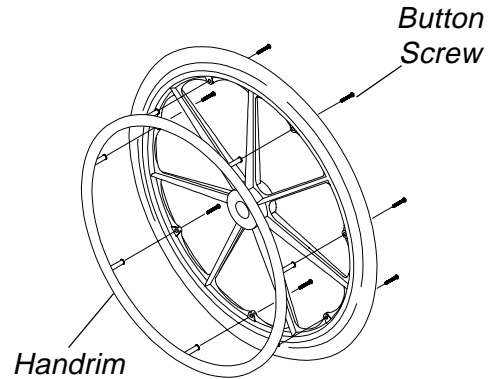

FIGURE 2 - REPLACING REAR WHEEL HANDRIM
**REPLACING REAR WHEEL HANDRIM (FIGURE 2)**